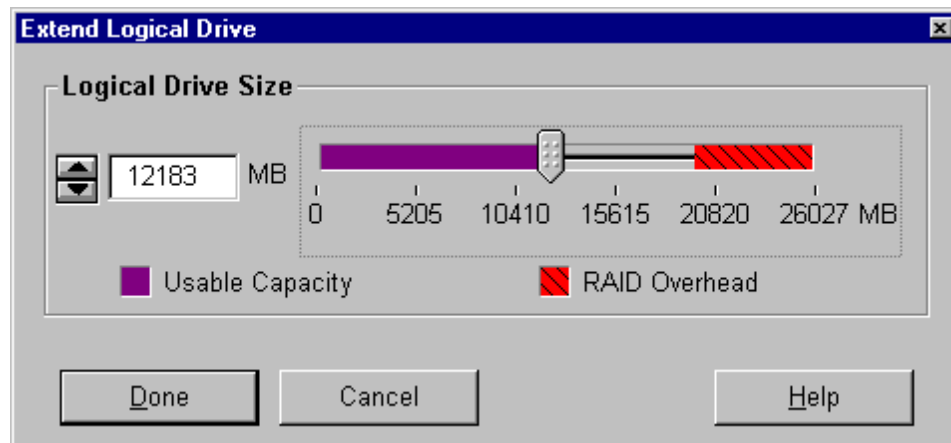

Figure 6-11. Extend Logical Drive screen
**NOTE:** The Extend Logical Drive screen displays the current capacity and RAID overhead of the selected logical drive (Figure 6-11).